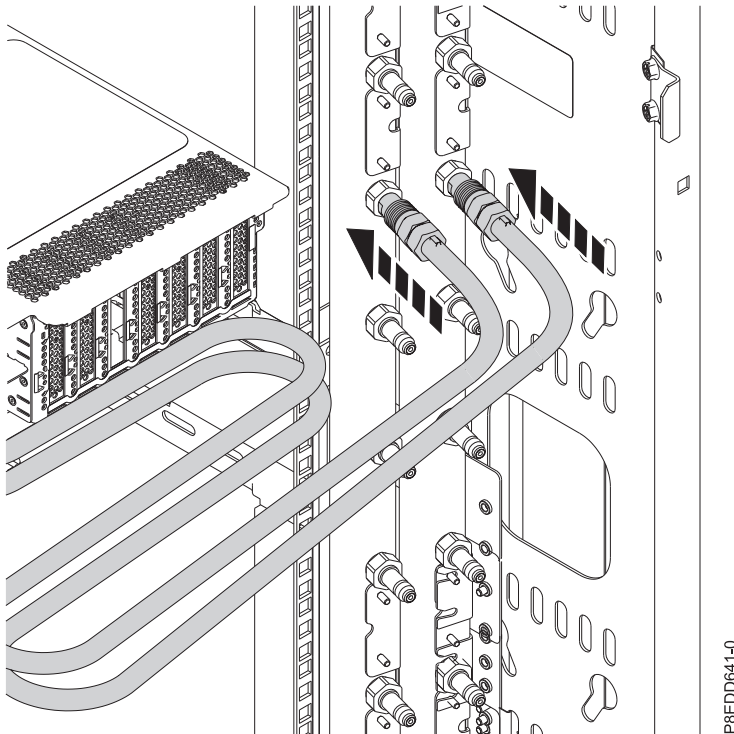

Figure 224. Connecting the water hoses
7. For a water-cooled system, connect the water hoses at the rear of the rack to the manifold, as shown in Figure 224 on page 209. Ensure that you plug the male hose into the female manifold plug, and plug the female hose into the male manifold plug.